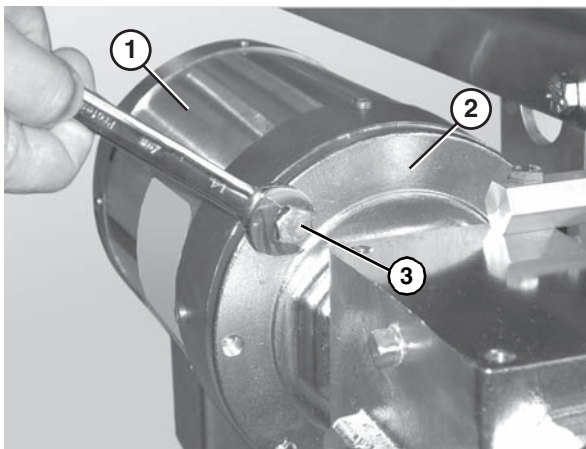

Figure 54
1. Remove the bolts that connect the motor to the drive assembly (Figure 54, item 3).
2. Remove the motor (Figure 54, item 1) from the drive assembly (Figure 54, item 2).